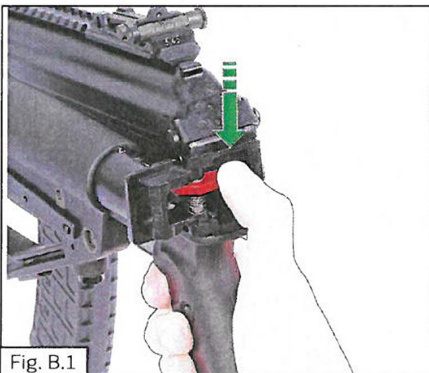

Fig. B.1
- set the buttstock into the operating position, for this purpose press the spring loaded hook and turn the buttstock until it is engaged by the retainer as shown in Fig. B.1.